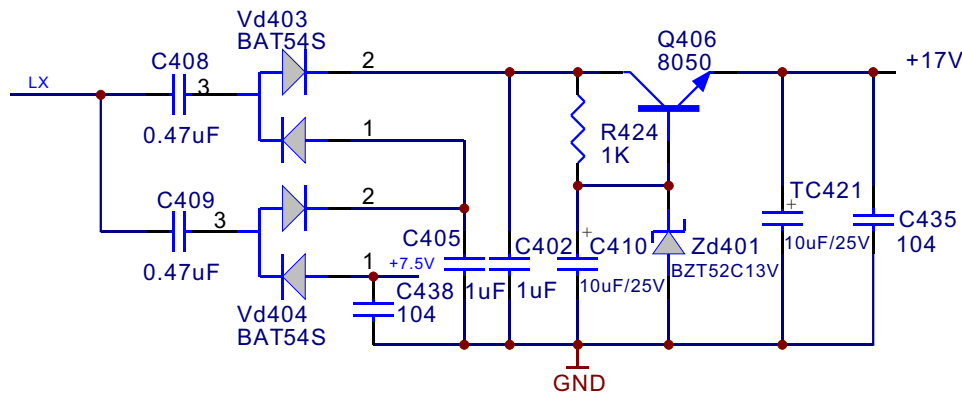

Figure 3.2.9.1 Doubling rectifying circuit diagram
1. Working of display drive circuit needs high voltage, so +5V voltage is doubled, shown in the figure 3.2.9.1: